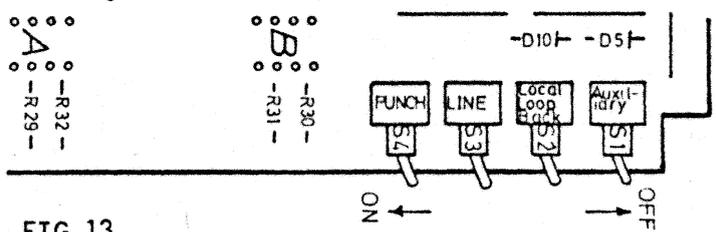

FIG 13
The interface is built up on a PWB. The PWB is inserted into board edge connector K2 of F 4070. On PWB are two receptacles, type DB 25 S, marked AUX(X2) and LINE(X3). On PWB are also four switches, S1 - S4 for operation modes and six jumper plug sockets, PS 1 - 6 which are used for different purposes like BAUD RATE, control conditions etc. There are also possibilities to connect certain signals to ON(+12V) or OFF(-12V) via solder jumpers A & B. See Fig. 13.
4.5 OPERATION MODES See Fig. 13.